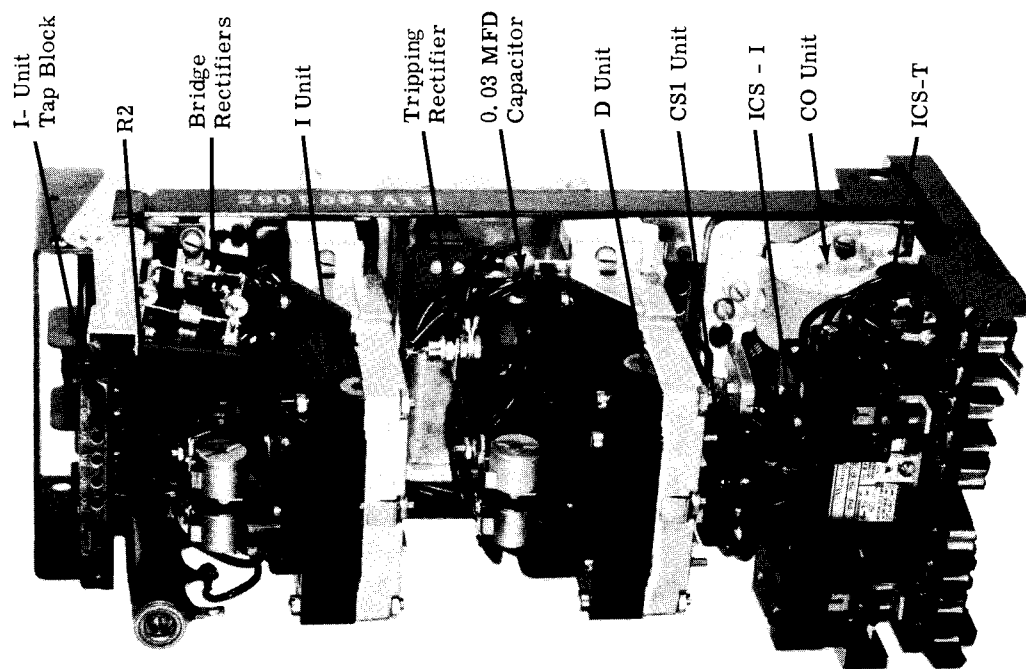

Fig. 1. Type IRV Relay Without Case (Front View).
The Type IRV relay consists of a directional unit (D), an auxiliary switch (CS-1), a time-overcurrent unit (CO), an instantaneous overcurrent unit (I), an instantaneous overcurrent unit transformer, and two indicating contactor switches (ICS/I) and (ICS/T). The principle component parts of the relays and their location are shown in Fig. 1 and 2.